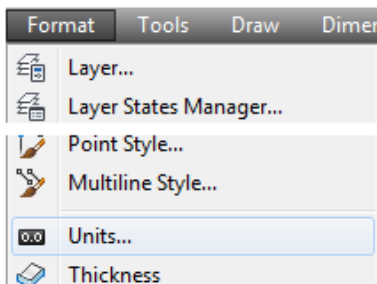

Figure Step 6A
Step 6 Click Format on the Pull-down menu and click Units to open the Drawing Units dialogue box. (Figure Step 6A and 6B)